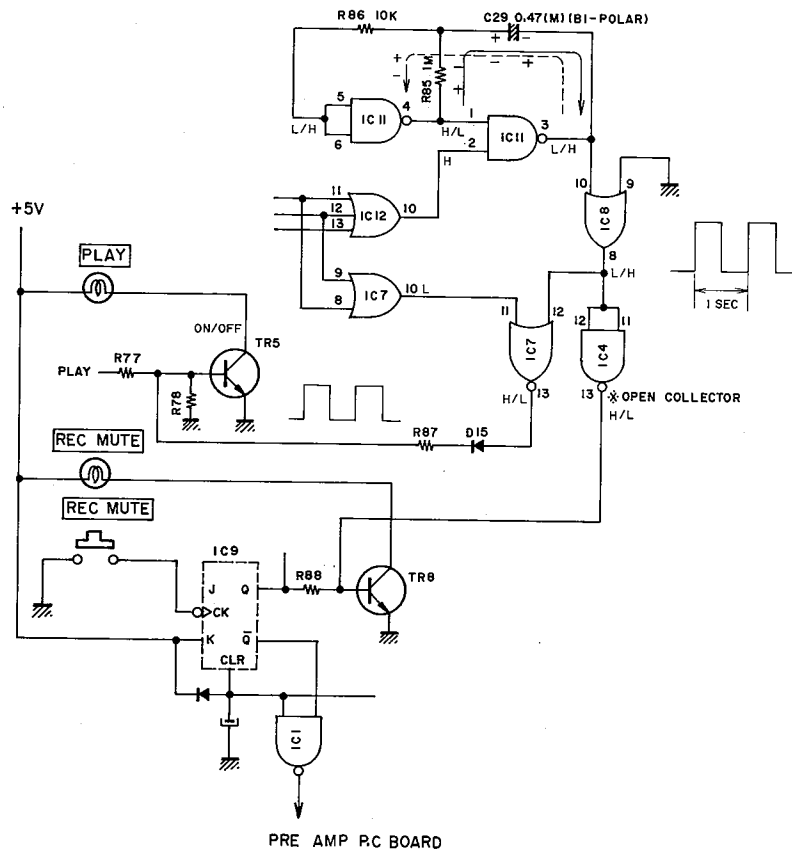

Fig. 8 Oscillation
- 3) If in the above modes, to one of IC12-⑪, ⑫, ⑬ is input the High Level so IC11-② becomes High Level. Then as IC11-③ changes to Low Level, charging current flows through R85 to C29 as shown by the solid line in Fig. 8. During the charging period, (C29 and R85's fixed time constants) IC11-⑤ and ⑥ are kept at High Level but once charging has finished the voltage drop becomes 0 and IC11-⑤, ⑥ changed to High Level. When IC11-⑤, ⑥ change to High Level, IC11-④ changes to Low Level, and IC11-③ changes to High Level and now the charging current flows to C29 as shown by the dotted line. During the charging period, IC11-⑤, ⑥ are kept at high Level due to the R85's voltage drop, but when the voltage drop becomes 0, IC11-⑤, ⑥ change to Low Level and IC11-④ to High Level and IC11-③ to Low Level and again the charging current flows as shown by the solid line. As this operation is repeated, square waves of approximately 1 Hz are input into IC8-⑩ and the same kind of wave form appears in IC8-⑧.
- 4) When the PLAY indicator lamp flashes on and off IC7-⑪ is fixed at Low Level so as the square waves of 1 Hz input into IC7-⑫, they are reversed and appear in IC7-⑬. This output, passing through D15 and R87 is added as bias of TR5 and the PLAY indicator lamp flashes. REC MUTE will be explained in 1-8.